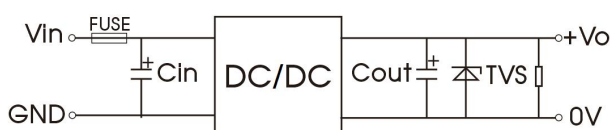

Fig. 1
- (1) We recommended using the recommended circuit shown in Fig.1 during product testing and application, otherwise please ensure that at least a 100µF electrolytic capacitors is connected at the input in order to ensure adequate voltage surge suppression and protection.
- (2) We recommended increasing the value of Cin and pay attention to the unstable input voltage if the product input side is paralleled with motor drive circuit and/or larger energy transient circuits, to ensure the stability of input terminal and avoid repeatedly start-up problems due to input voltage lower than under-voltage protection point.
- (3) We recommended increasing the output capacitance with limited to the capacitive load specification and/or increasing the voltage clamping circuit(such as TVS) if the output terminal is inductive device such as relay or a motor, to ensure adequate voltage surge suppression and protection.
- (4) Input and/or output ripple can be further reduced by appropriately increasing the input & output capacitor values Cin and Cout and/or by selecting capacitors with a low ESR (equivalent series resistance). Also make sure that the capacitance is not exceeding the specified max. capacitive load value of the product.